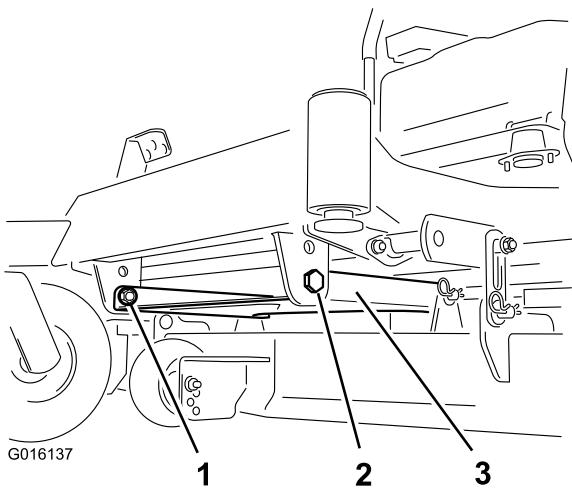

Figure 1
2. For all MX Titan machines and all machines with 60 inch mower decks, remove the 2 nuts and bolts that secure the front of the mower housing pan (Figure 1).
6. For all MX Titan machines and all machines with 60 inch mower decks, install the front of the mower housing pan using the nuts and bolts previously removed (Figure 1).